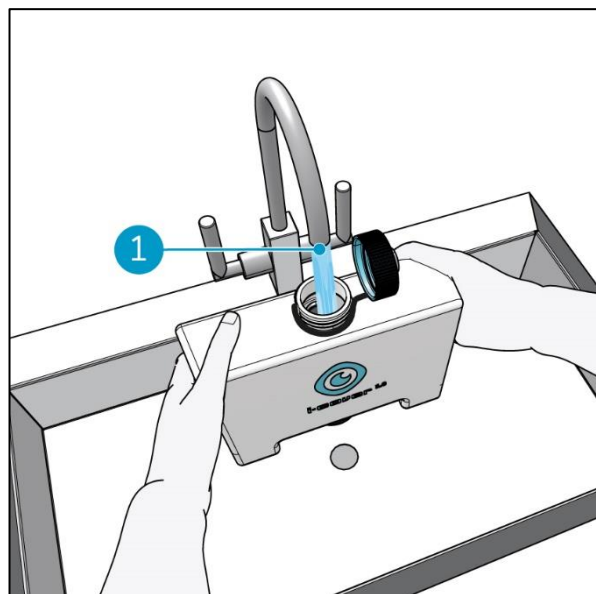

Figure 16
2. Fill the disinfectant tank with tap water (Figure 16, pos 1).